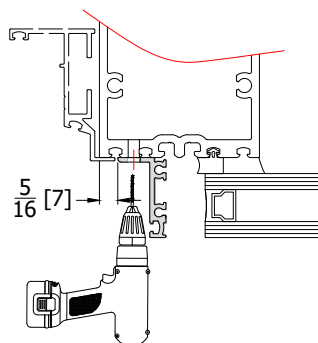

FIG. 5
- Locate adapter inset from DLO of wall framing and "match drill" $\varnothing.177$ (#16 drill bit) pilot hole through wall framing for #10 fastener. See **FIG. 5**